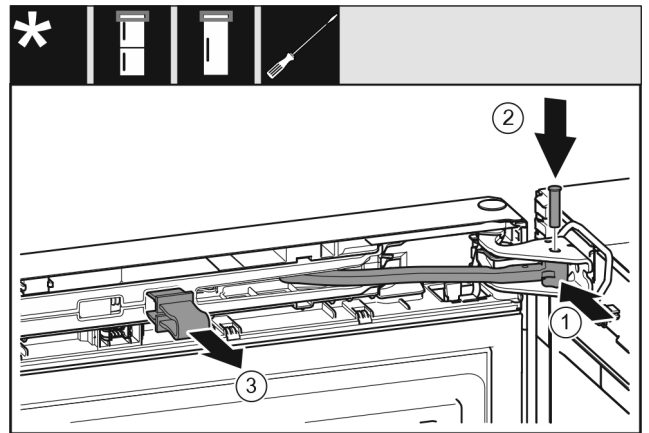

Fig. 31
- ▶ Turn the joint Fig. 31 (1) in the bearing block.
- ▶ Insert thebolt Fig. 31 (2) into the bearing bracket and joint. Ensure that the latching cam is in the groove properly.
- ▶ Remove the safeguard Fig. 31 (3).